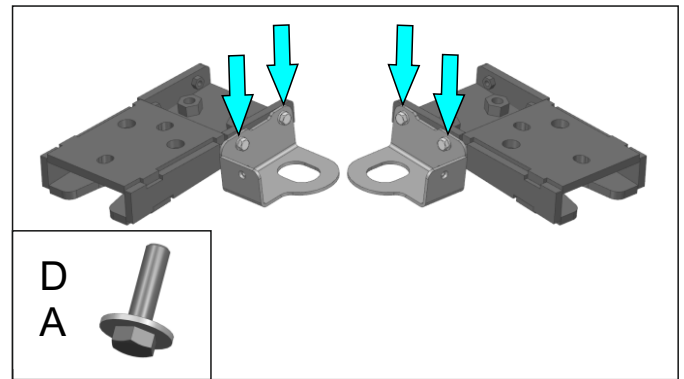

Fig. 4
4. Secure intercooler brackets (items 3,4) to recovery point brackets (item 1) using M6x20 bolts, and M6 washers (items A, D) as shown in Fig.4.